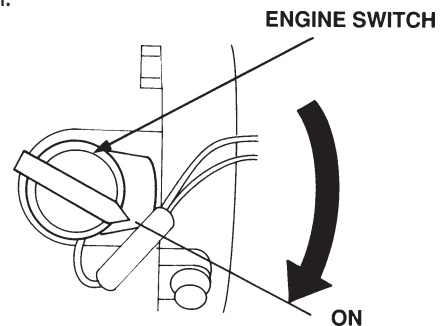

Figure 16. Engine ON/OFF Switch (ON Position)
5. Place the *engine ON/OFF switch* (Figure 16) in the "**ON**" position.